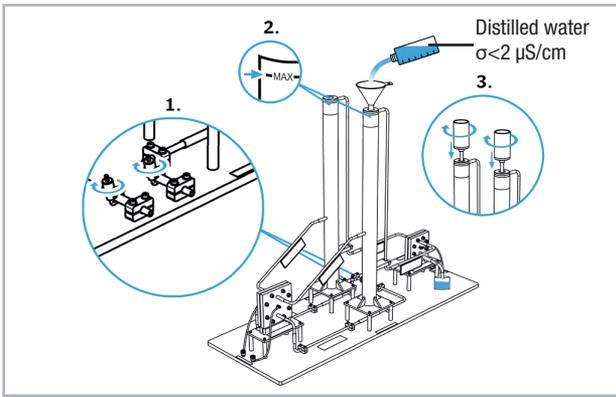

Fig. 3: Filling
- Fill the water reservoir with distilled water, up to the -MAX- mark, and add water to Gas flow indicator bowl. **Note: Use only distilled water ($\sigma < 2 \mu\text{S}/\text{cm}$) as shown in Figure 3.**